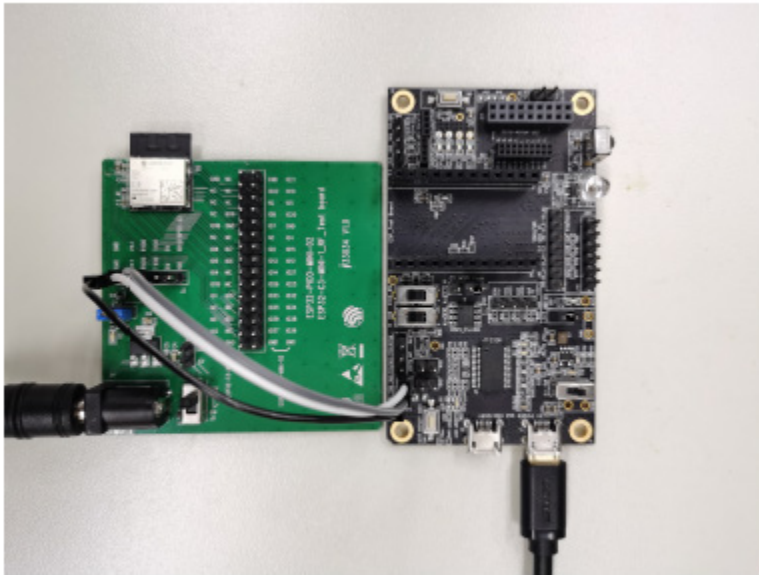

Figure 2: Hardware Connection
1. Solder the ESP32-C3-MINI-1-N4 module to the RF testing board as shown in Figure 2.